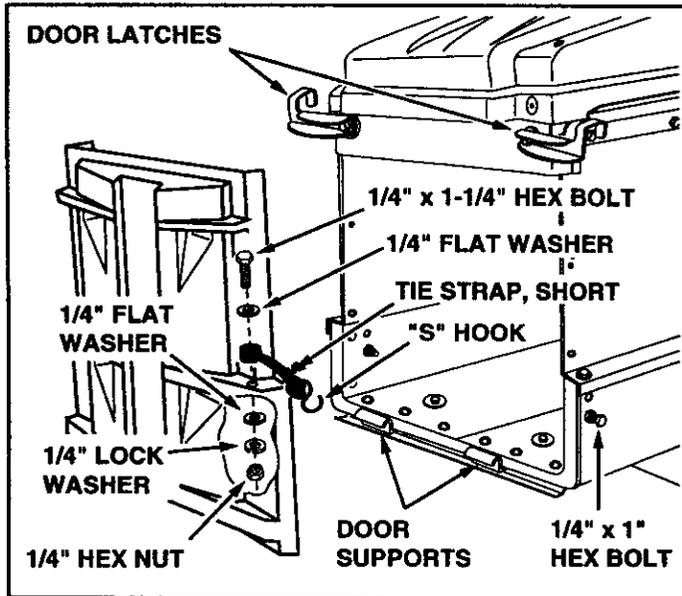

FIGURE 20
- Assemble a short tie strap to the rear door using one 1/4" x 1-1/4" hex bolt, two 1/4" flat washers, one 1/4" lock washer and one 1/4" hex nut. Assemble an "S" hook through the loose end of the strap. See figure 20. Repeat on other side of door.
- Attach the door to the rear of the cart by resting the bottom of the door on the door supports and pushing the top in against the cross brace. Swivel the door latches down until they lock into the slots in the sides of the cart. See figure 20.
- Hook both the tie straps onto the 1/4" x 1" hex bolts in the sides of the cart. See figure 20.